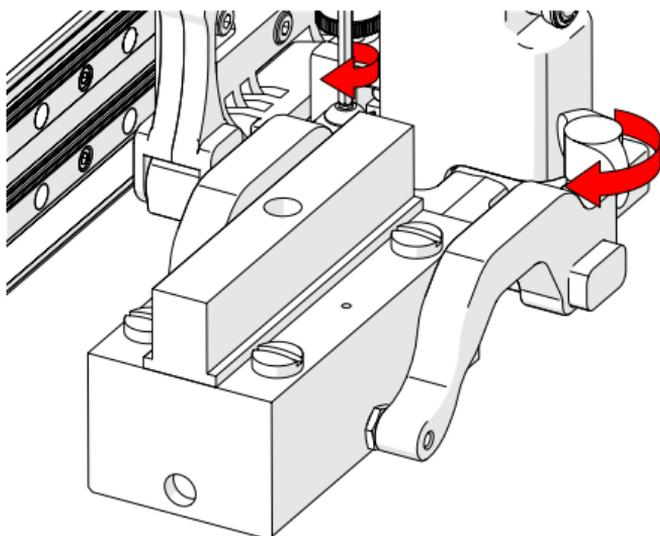

Fig. 118 - Tighten knob and screw
7. Tighten both the probe holder arm adjustment knob and the arm clamp screw (Fig. 118) while ensuring the wedge remains centred with the yoke.